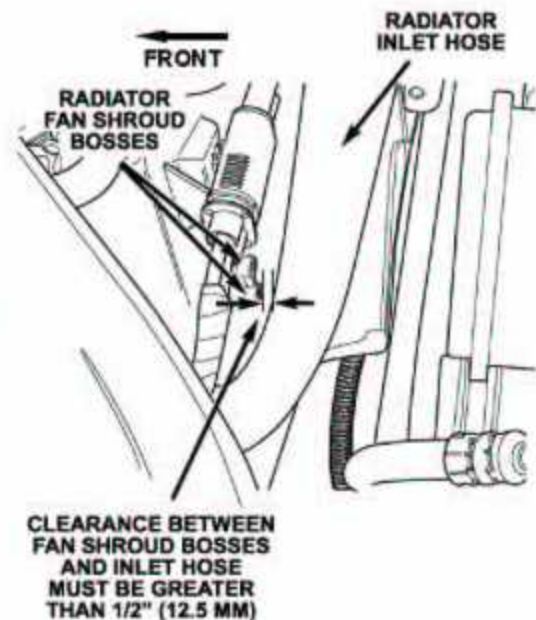

Figure 2
- If there is **GREATER THAN 1/2" (12.5 mm)** clearance between the inlet hose and the two (2) bosses on the radiator shroud (Figure 2), no further action is necessary. Install the air inlet to air cleaner housing tube and return the vehicle to the customer.
- If there is **LESS THAN 1/2" (12.5 mm)** clearance between the inlet hose and the two (2) bosses on the radiator shroud and the hose shows no evidence of contact with the bosses (Figure 2), the hose must be repositioned. Continue with Step 4.
- If there is **LESS THAN 1/2" (12.5 mm)** clearance between the inlet hose and the radiator shroud bosses (Figure 2), and the hose has visible evidence of hose wear from contact with the bosses, the hose must be replaced. Continue with Section B – Replace Radiator Inlet Hose.